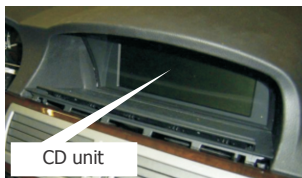

Fig.1. CD unit location in BMW 7 series.
Vehicle CAN-bus is pair of wires: CAN-L and CAN-H. The unit is connected to the breakage of the CAN-bus: for BMW 7-series the unit is connected in the vicinity of power supply port of Control Display (CD) unit (see Fig. 1).